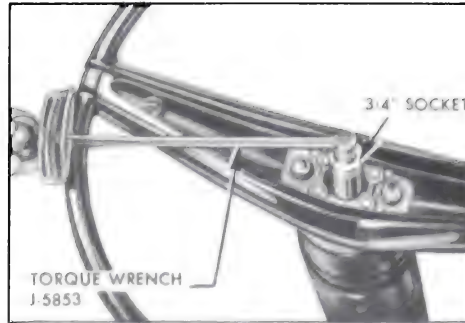

Figure 8-4—Checking Adjustments in Car
6. Attach Torque Wrench J-5853 to steering wheel retaining nut and check the torque required to turn the wheel steadily in the range where lash exists between ball nut and pitman shaft sector. See Figure 8-4. The torque required to keep wheel turning should be between 2 and 7 inch pounds. Adjust worm bearing preload if necessary.